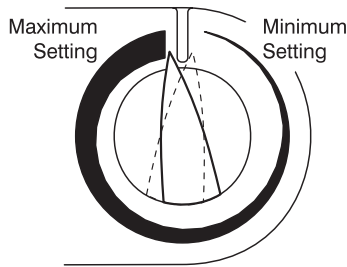

Figure 3—Pressure control knob setting
- Turn the pressure control knob to the maximum setting. See figure 3. Wait approximately 30 minutes for pad to inflate. If there are end flaps, tuck them under the mattress. Place a sheet over the Paradise Pad. Make certain that the sheet is loosely fitted. Tightly fitted sheets can interfere with pressure relief.